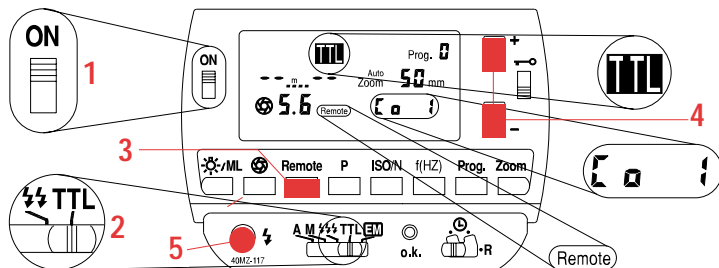

Fig. 15: Settings for TTL remote operation
- 1 Switch on the flashgun mounted on the camera with the main switch ①.
- 2 Set the operating mode selector ⑬ to TTL.
- 3 Press the **Remote** button ④ on the flashgun mounted on the camera.
- 4 Use the „+“ button ⑨ to select the controller address **Co 1** or **Co 2**.
- Fit each slave with an SCA 3080 Slave Adapter, switch on with the main switch ①, and set the operating mode selector to TTL: The slaves are now in slave mode.
- 5 Press the manual firing button ⑭ on the flashgun mounted on the camera and fire a test flash.
- The slave unit responds with a delayed flash, thus confirming that it is ready for operation. If several slaves are used at the same time, all will react simultaneously. The LC display indicates SL 1 or SL 2, depending on the controller address selected (Fig. 15). If, after a test flash has been fired, proper function is not confirmed by one of the slave units in the form of a delayed flash, then the sensor ⑥ in the SCA adapter has not received any light pulse. Should this be the case, rotate the rotary base ③ of the flash unit so that the sensor ⑥ can receive a light pulse, and repeat step 5.